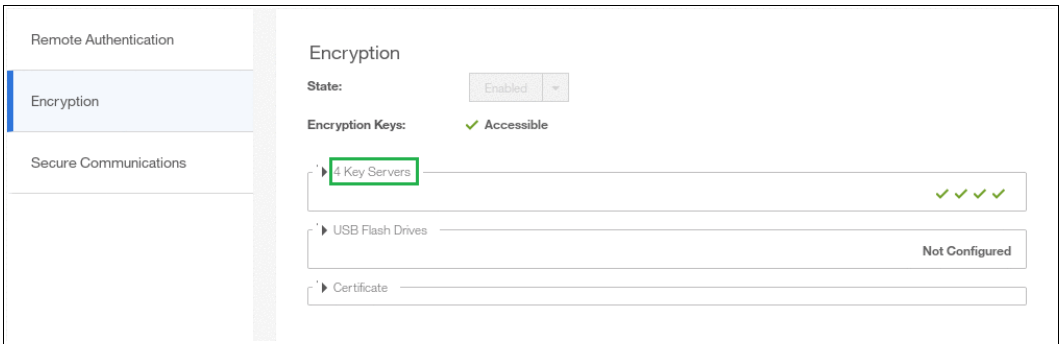

Figure 13-74 Locate Key Servers section on Encryption screen
1. Click **Settings** → **Security** → **Encryption**, ensure that **Encryption Keys** shows that all configured SKLM servers are reported as **Accessible**, as shown in Figure 13-74. Click on the Key Servers section label to expand the section.